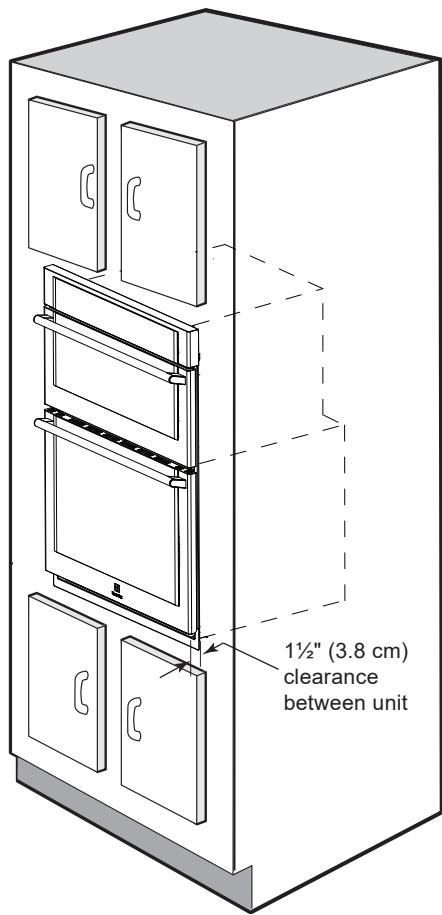

Figure 6: Cabinet Installation
3. Insert the oven into the cabinet opening. Slide oven inward leaving  $1\frac{1}{2}$ " (3.8 cm) clearance between the oven and front of cabinet (see Figure 6).